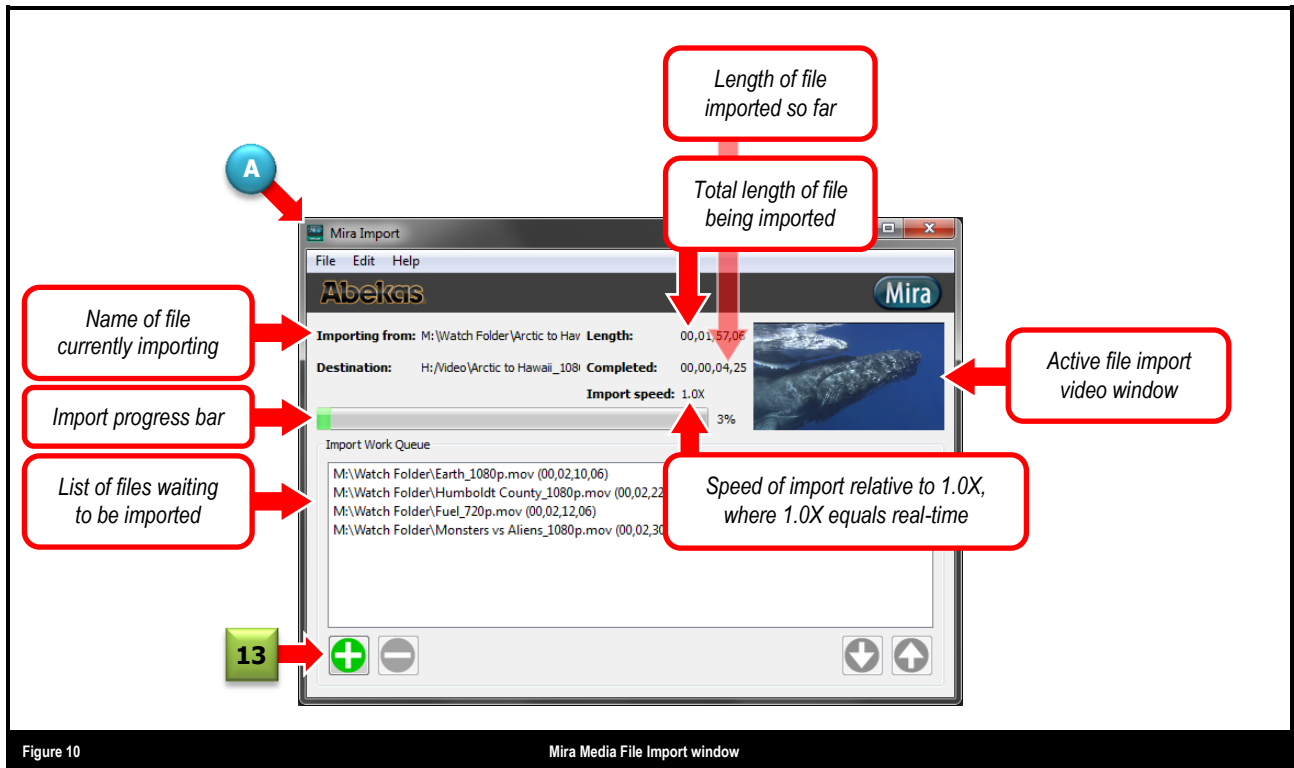

Figure 10
- ▶ (A) Selected file(s) are added to work queue, and importing immediately begins on the first file, as shown in **Figure 10** below.
- ▶ Selected file(s) are added to work queue, and importing immediately begins on the first file, as shown in **Figure 10** above.